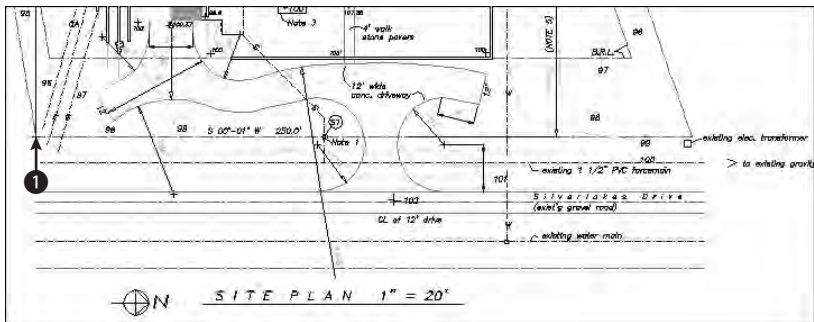

Figure 16-40: The completed multiline
- ① in Figure 16-40. (If necessary, press Tab until you get the Intersection object snap.) At the <Offset>: prompt, type @0,-10' ↵.
4. At the Specify next point: prompt, move the cursor to the right and type 255' ↵. If you want, you can experiment by drawing other line segments. Press Enter to end the command. The drawing should look like Figure 16-40.